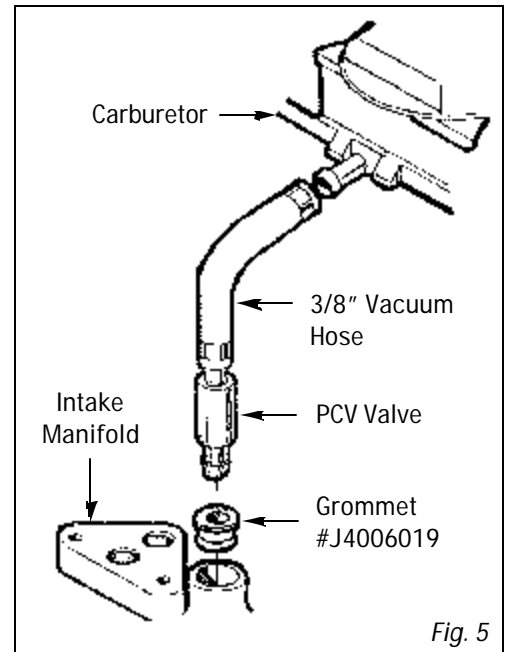

Fig. 5
- **PCV VALVE:** Some engines use a PCV valve that is clamped to a hose between the carburetor and manifold. The stock AMC manifold has a 3/8" NPT pipe port at the manifold rather than a hole to accept a rubber grommet which the Edelbrock manifold uses. To re-install the PCV valve to our manifold, you may purchase a grommet from your local AMC/Chrysler dealer, (#J4006019) and 10" of 3/8" vacuum hose (See Figure 5).